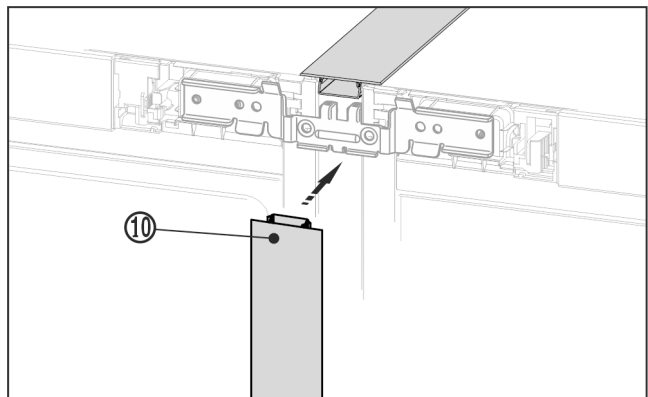

Fig. 23 *
- On the front, press the long cover strip Fig. 23 (10) into the vertical gap. Ensure that the strip rests on the connecting plate.*